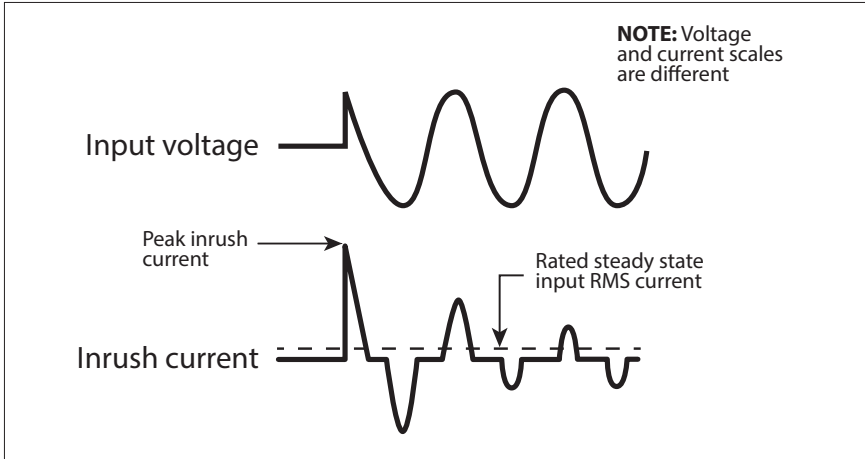

Fig 4.1: Inrush current in an SMPS
- **AC to DC Switched Mode Power Supplies (SMPS):** This type of power supply is used as stand-alone power supply or as front end in all electronic devices powered from Utility / Grid e.g. in audio/video/ computing devices and battery chargers (Please see Section 4 for more details on SMPS). When this power supply is switched ON, its internal input side capacitors start charging resulting in very high surge of Inrush Current for a few millisecs (Please see Fig 4.1). This surge of inrush current / power may reach up to 15 times the Continuous Maximum Running Power Rating. The surge of inrush current / power will, however, be limited by the Surge Power Rating of the AC source.
Switch Mode Power Supplies (SMPS) are extensively used to convert the incoming AC power into various voltages like 3.3V, 5V, 12V, 24V etc. that are used to power various devices and circuits used in electronic equipment like battery chargers, computers, audio and video devices, radios etc. SMPS use large capacitors in their input section for filtration. When the power supply is first turned on, there is a very large inrush current drawn by the power supply as the input capacitors are charged (The capacitors act almost like a short circuit at the instant the power is turned on). The inrush current at turn-on is several to tens of times larger than the rated RMS input current and lasts for a few milliseconds. An example of the input voltage versus input current waveforms is given in Fig. 4.1. It will be seen that the initial input current pulse just after turn-on is > 15 times larger than the steady state RMS current. The inrush dissipates in around 2 or 3 cycles i.e. in around 33 to 50 milliseconds for 60 Hz sine wave.